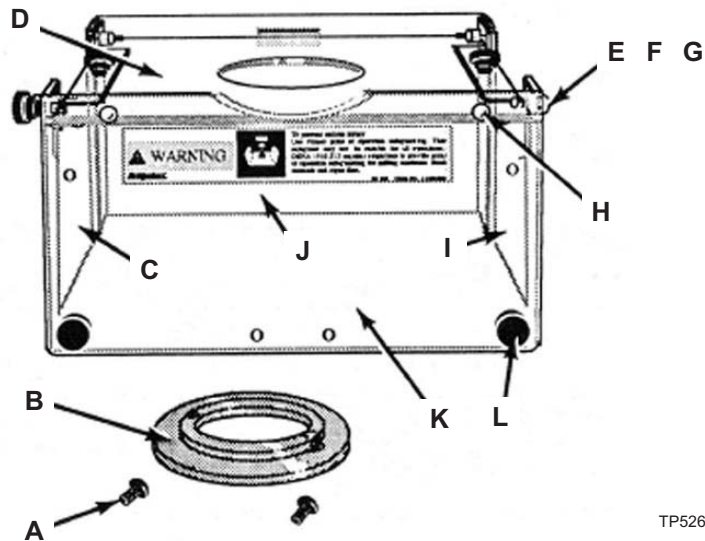

Figure 6.1 - Safety Guard for Machines with an R-8 Spindle
1. Place mounting ring "B" underneath top of guard "D", Figure 6.1.
Refer to Figure 6.1 for component identification.
Refer to Figures 6.1 and 6.2 for component identification.